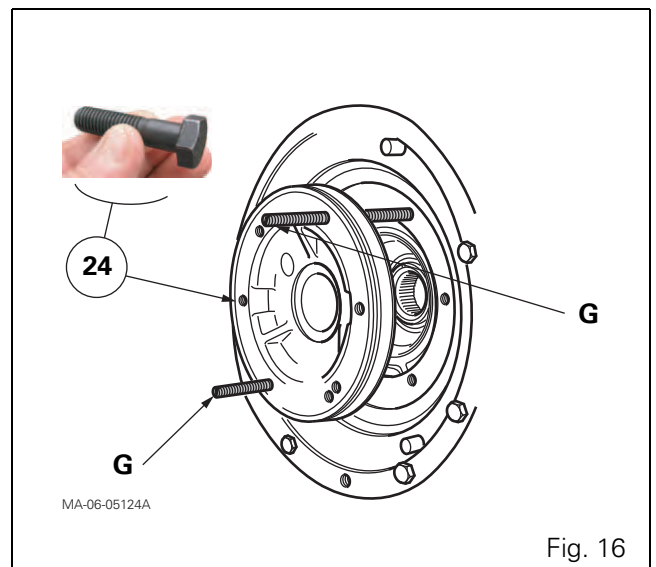

Fig. 16
48. Slide the right-hand differential support onto the G guide studs (Fig. 16). Fit it partially using a soft hammer. Continue force-fitting it with four original screws (24).